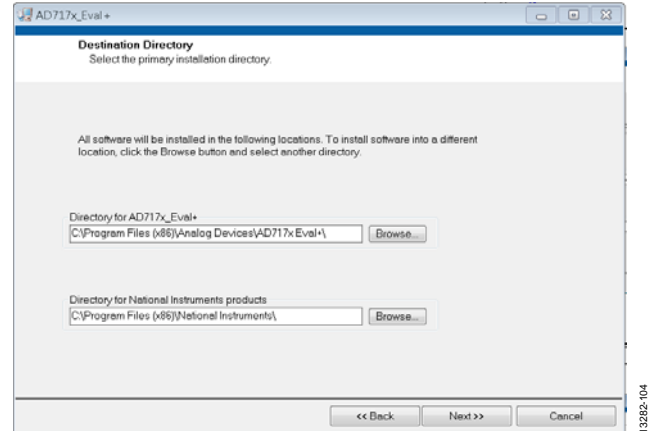

Figure 4. Selecting the Location for Software Installation
4. Select a location to install the software and click **Next>>**. Figure 4 shows the default locations displayed when the dialogue box opens. To select another location click **Browse**.